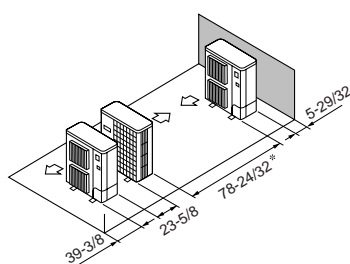

Fig. 2-12
- ⑤ Single parallel unit arrangement (Fig. 2-12)